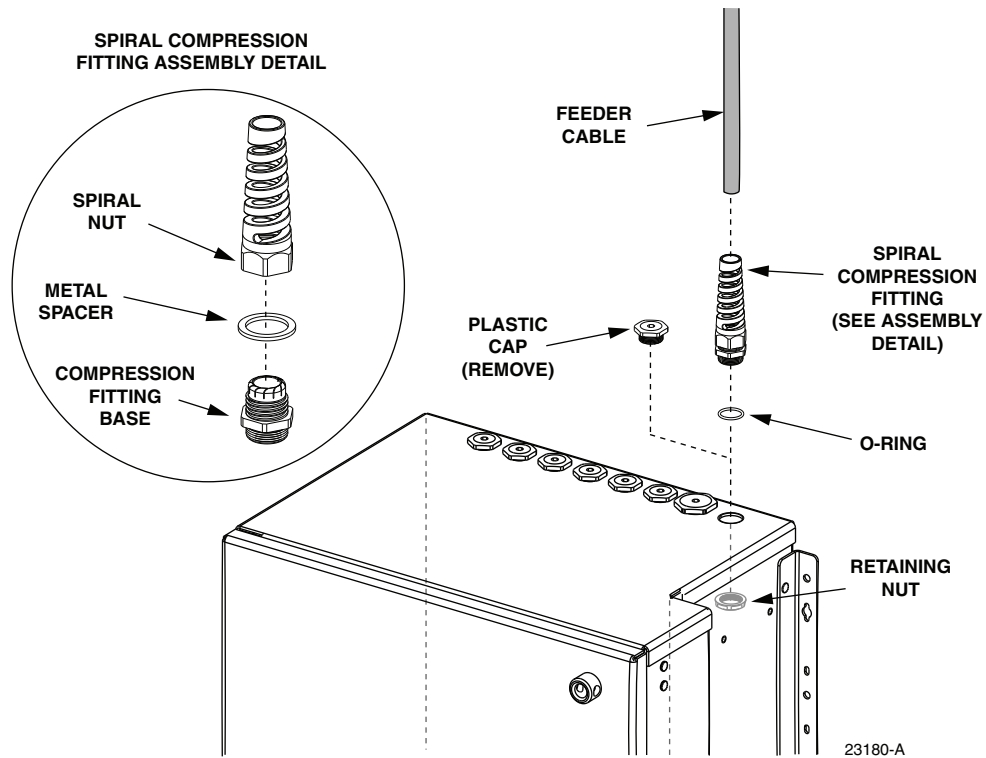

Figure 16. Plastic Cap Removal and Compression Fitting Installation
3. Remove the plastic cap and retaining nut from the feeder cable entry/exit hole as shown in Figure 16. Save the retaining nut for reuse.
4. Locate the spiral compression fitting components that are shipped with the cabinet and loosely assemble the fitting as shown (see Figure 16).